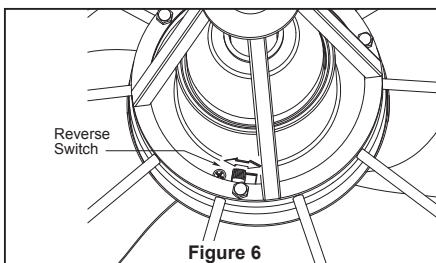

Figure 6
- ☐ 6. Remove the three cap nuts from the motor assembly and retain them for later. (Figure 6)
- ☐ **6.** If airflow is desired in the opposite direction, turn the fan off and wait for the blades to stop turning. Slide the reverse switch on the motor assembly to the opposite position and turn fan on again. (Figure 6)